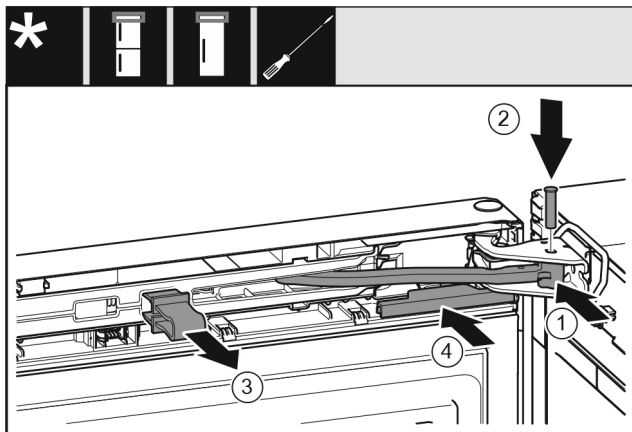

Fig. 21
- Turn the hinge in the bearing bracket. Fig. 21 (1)
- Insert the bolt in the bearing bracket and hinge. Make sure that the latching lug is sitting correctly in the groove. Fig. 21 (2)
- Remove the locking device. Fig. 21 (3)
- Slide on the cover. Fig. 21 (4)